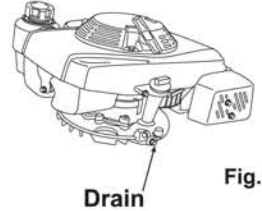

Fig. 35
2. Extract the fuel from the fuel tank and the carburetor. (See Fig. 35)